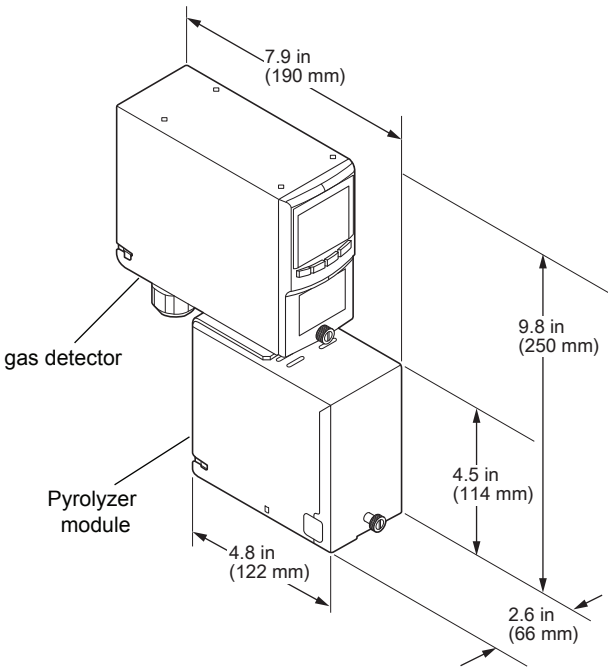
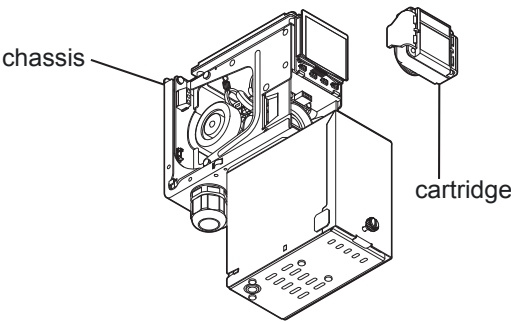

Figure 1: Dimensions
Figure 5: Reassembling the detector
The unit's dimensions are shown in Figure 1.
4. Insert the sensor cartridge (see Figure 1) into the sensor cartridge chamber (Figure 5) and refer to the Sensor Cartridge Installation Quick Start Guide (MIDAS-A-021).